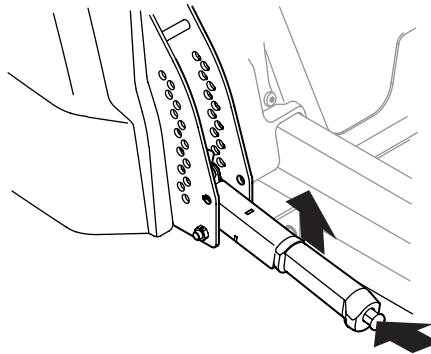

Figure 3-12
- Use the deck lift handle to raise the deck to its highest position by depressing the button at the end of the handle and pulling upwards. Make sure the latch engages on the pin. See Figure 3-12.